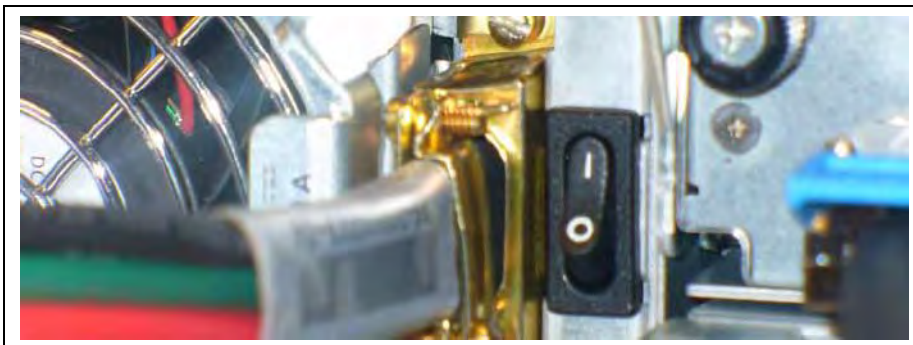

Figure C.55 - DC Power Switch on Disk Array
4.	Power up the new disk array. Press the power switch, on both power supply units, to the ON position. (Figure C.55)